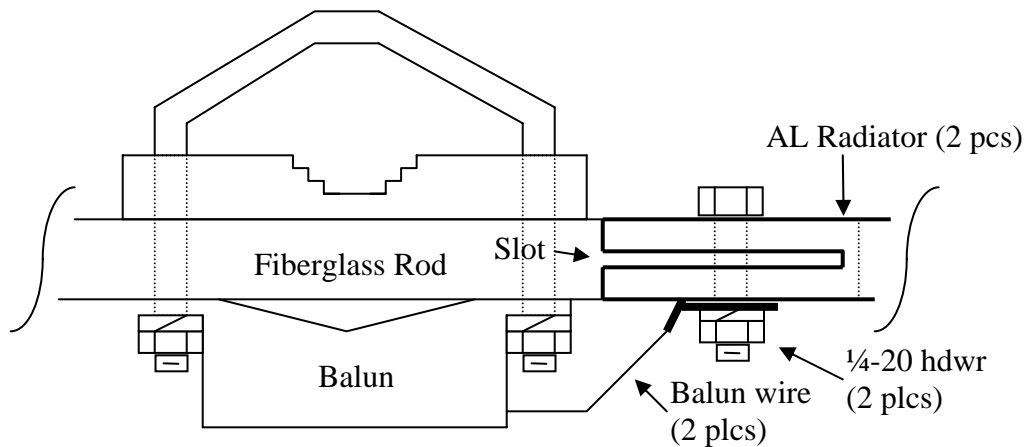

Figure 3: Radiator Tube Assembly – Top View
- 6) Slide the 1-1/8 x 60" aluminum radiator tubes over the center insulator/balun assembly with the slot on each aluminum tube on the topside of the fiberglass rod/balun assembly. Insert the 1/4-20 bolts through the aluminum tube/fiberglass assembly and through the balun lugs. Add the 1/4-20 split lock-washers and nuts and tighten securely. See Figure 3.